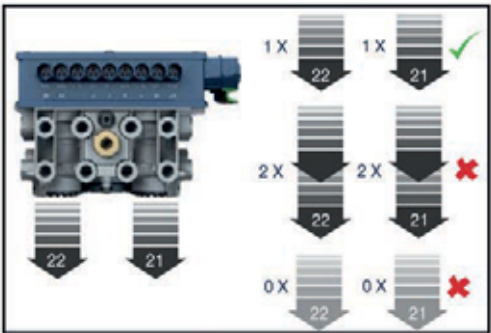

Figure 3
2. During the self check procedure, the system cycles the Electro Pneumatic Relay Valves (EPRV's). With foot brake applied one exhaust of air from each EPRV will be audible (Figure 3).